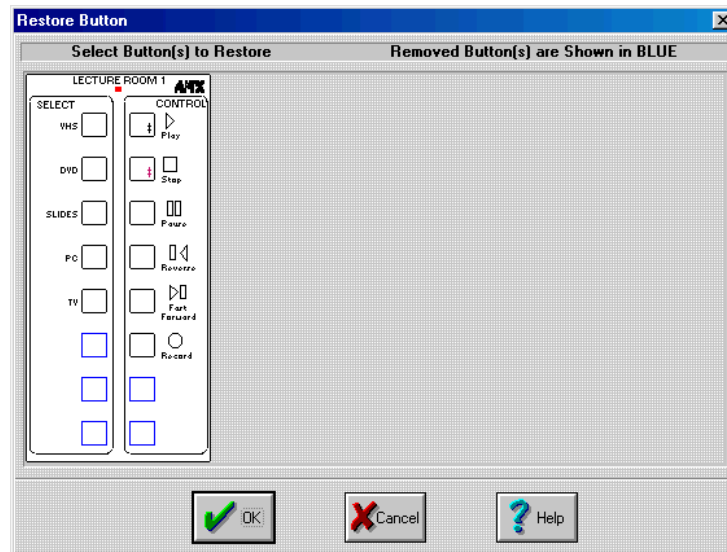

FIG. 10 Restore Button dialog showing the buttons to be restored
1. Open the target overlay. Then, click Button > Restore drop-down menu to open the Restore Button dialog (FIG. 10). Removed buttons appear in blue.